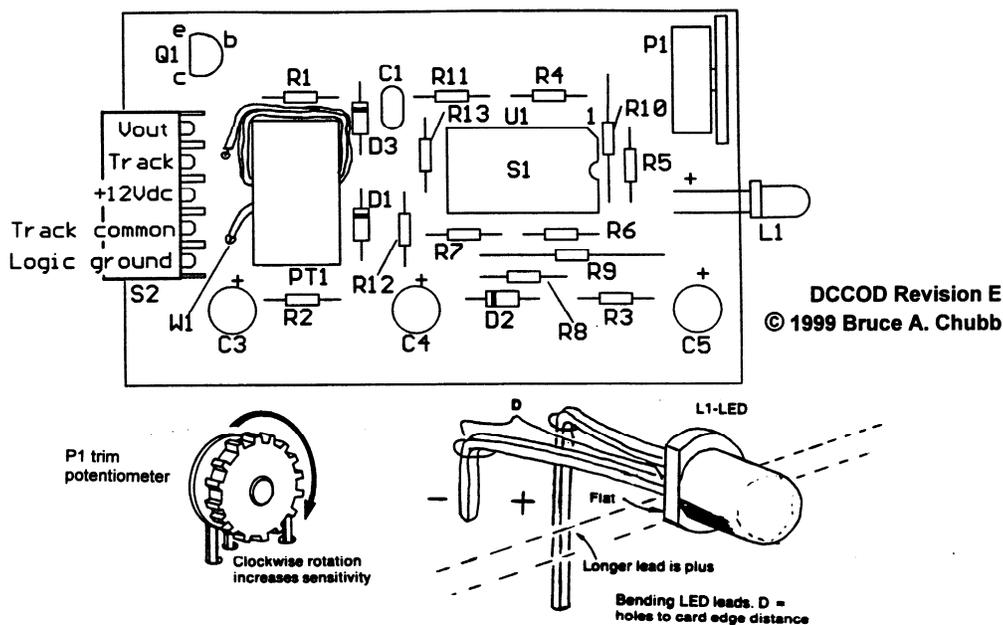

Fig. 4-2. Parts layout for DCCOD card
The parts layout drawing is shown as Fig. 4-2 and the parts list is in Table 4-1.
□ **D1-D3[+].** Install in the same manner as the resistors but make certain that the banded end of each diode is oriented as shown in Fig. 4-2. Diodes D2 and D3 are very similar except for the part number so
□ **C3-C5[+]**. Insert these components with the capacitor standing perpendicular to the card. Make sure that the + leads, the longer of the two leads, also denoted by a small + sign, go into the + holes as shown in Fig. 4-2. Incorrect polarity will damage these capacitors. Solder and trim the leads.
□ **P1**. Install this potentiometer as in Fig. 4-2, push the three prongs all the way into the holes as you solder. You may need to adjust the back, single, prong a little so the potentiometer dial stands up perpendicular to the card.
□ **Q1[+]**. Spread the leads of this transistor slightly to fit the three holes, making sure the center (base) lead goes into the hole closest to P1, and that the flat side of Q1 faces the direction shown in Fig. 4-2. Push it in only far enough for it to fit snugly without stressing the leads. Solder and trim the leads.
□ **L1[+]**. Note the orientation of flat side and + hole (longer lead) in Fig. 4-2. With needle-nose pliers, hold the leads securely next to the housing and bend at right angles as in Fig. 4-2 detail. The LED sticks out over the edge of the card so you can see it when the detectors are plugged into their motherboard. Once bent and properly fitted to the card, solder and trim the leads.